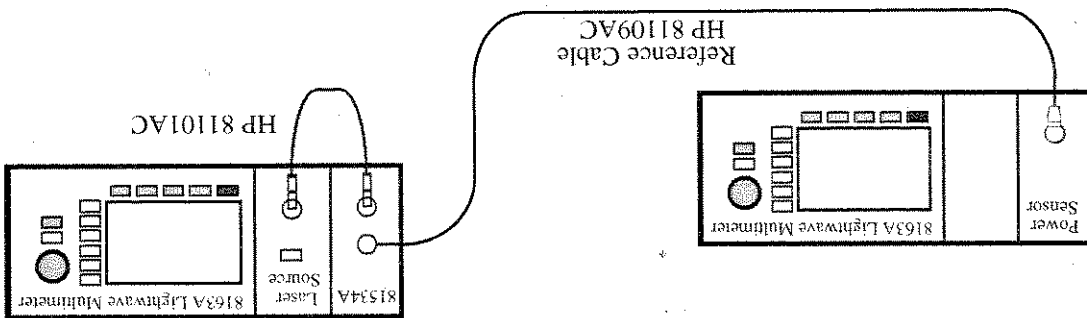

Figure 90 Measuring the Power Transmitted through the Reference Cable
- 6 Connect the reference cable to a Power Sensor as shown in Figure 90.